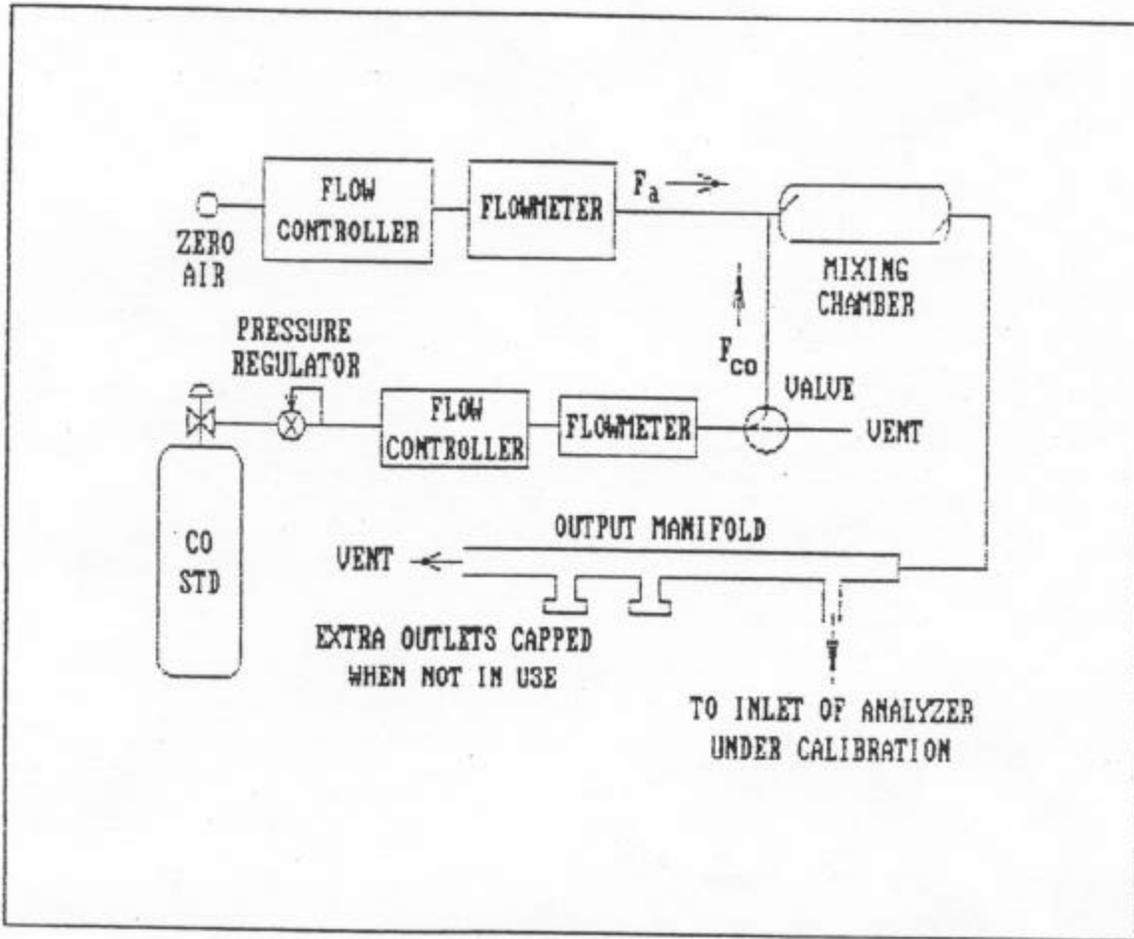

Figure S.3.0.1
Figure S.3.0.1, a diagram of a typical CO dynamic calibration system. Connections between components in the calibration system downstream from the CO cylinder should be of glass FEP Teflon\*, or other non-reactive material.
1. Record analyzer parameters and site conditions on the Calibration Datasheet (Figure S.3.0.1).